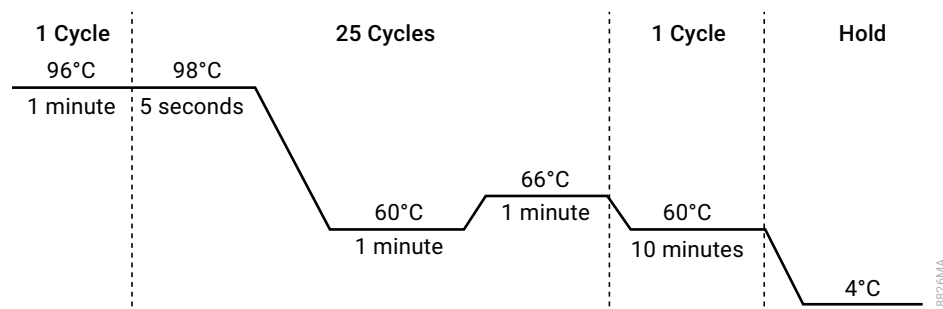

Figure 29. Thermal cycling protocol for the ProFlex® PCR System.
2. Select and run the protocol provided below and in Figure 29. The total cycling time is approximately 80 minutes.